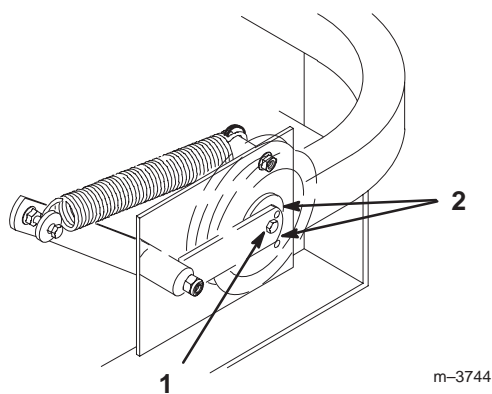

Figure 67
8. Check belt tension. The center bolt of spring loaded idler must be between the two alignment holes in left support plate (Fig 67).
10. Check belt tension again. The center bolt of spring loaded idler must be between the two alignment holes in left support plate (Fig. 67). Adjust, if necessary, and tighten all hardware securely.